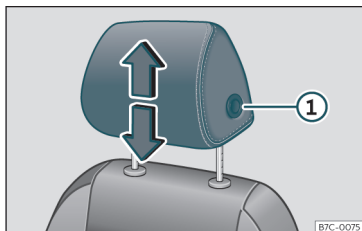
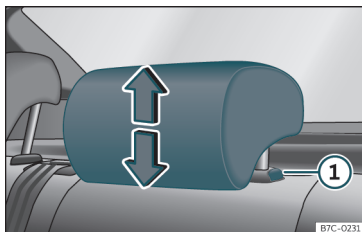

Fig. 103 Front seat: headrest adjustment.
Fig. 104 Rear headrest: headrest adjustment.
- Grab the sides of the headrests with both hands and push upwards to the desired position. To lower it, repeat the same action, pressing the ①»» **Fig. 103** »» **Fig. 104** button on the side.
- Press the side button»» **Fig. 103** ① and remove the headrest.